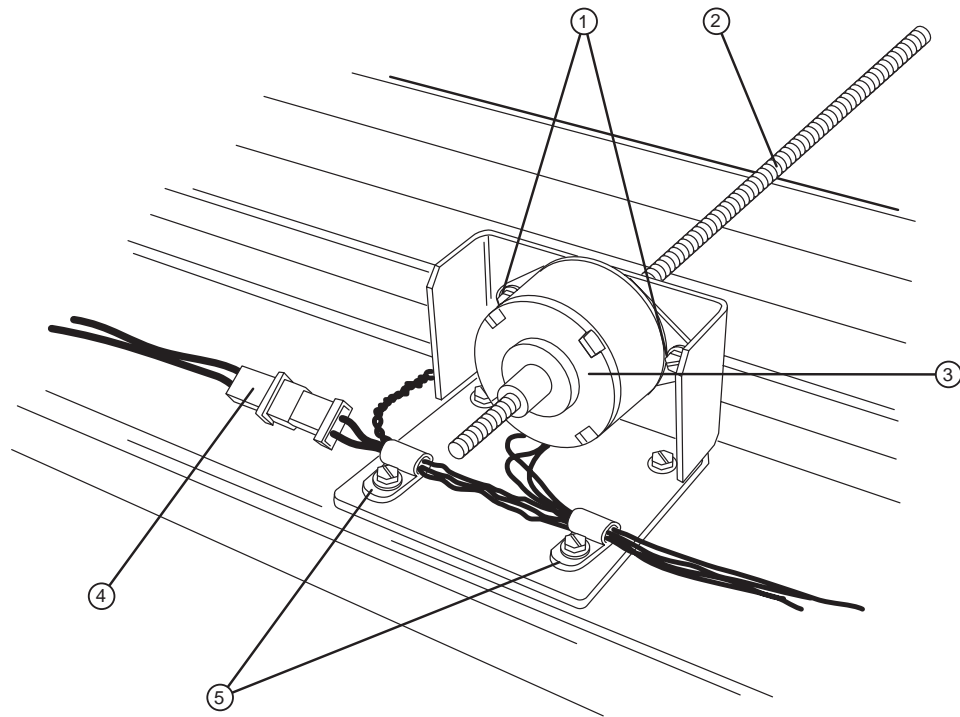

Figure 2-4 Buffer carriage drive motor.
- ①—Four cover mounting screws. ②—Carriage drive motor cover.
③—Carriage drive motor. ④—Lead screw.
3. Remove the two (2) screws on the motor bracket. Refer to Figure 2-4.
4. Using a flathead screwdriver, disconnect the two (2) P-clips attached to the bracket. Refer to Figure 2-4.
6. Remove the lead screw. Refer to Figure 2-4.